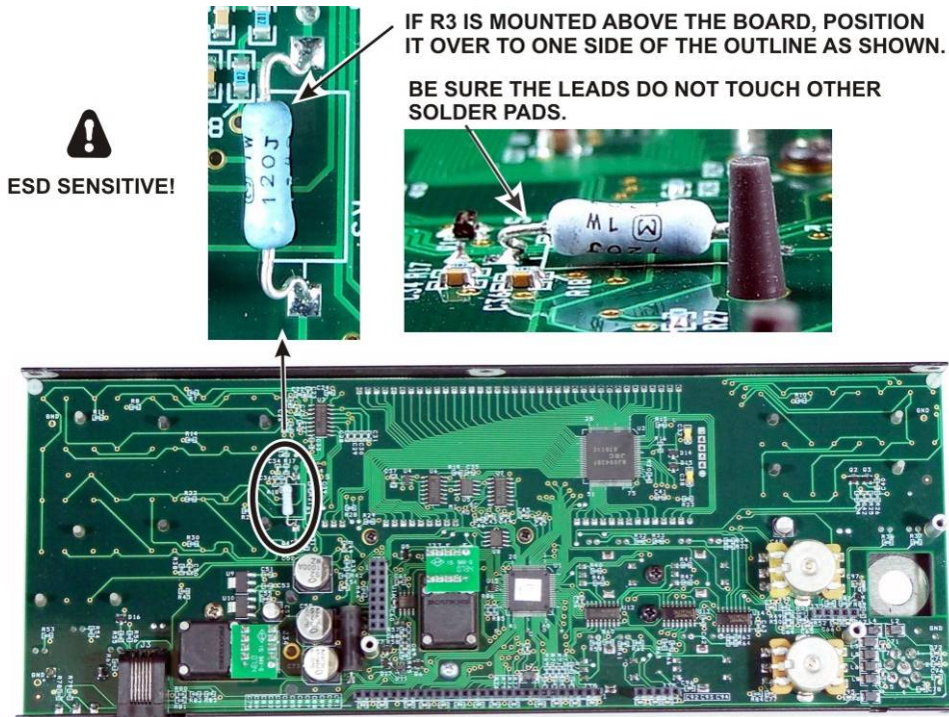
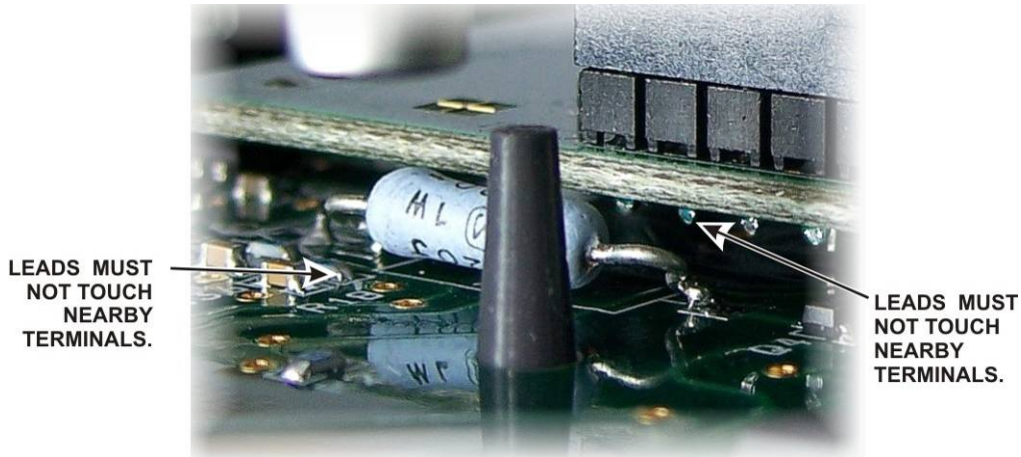

Figure 25. Positioning R3 on the Front Panel Board.
Figure 28. Checking the Position of R3.
Locate resistor R3 on the front panel board (mounted on the front panel). If R3 is positioned above the board on its leads as shown in Figure 25, push it over to one side of the outline as shown. Be sure you don't push it so far its leads might touch the solder pads for other components on the board.
□ If you installed the Auxiliary DSP board for the KRX3A and adjusted the position of resistor R3 as shown in Figure 25, look between the DSP boards and the front panel board to verify that the leads are not touching any terminals on either the aux DSP or front panel boards (see Figure 28). If necessary, unplug the DSP board assembly and adjust the position of R3 to ensure the leads are clear of other solder pads before proceeding.